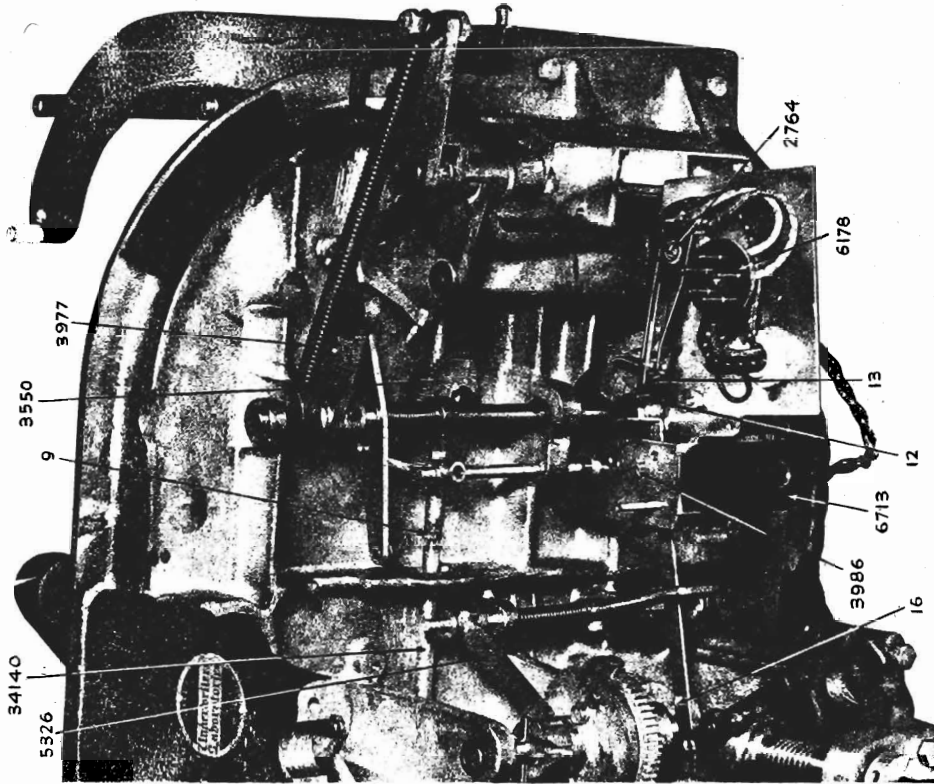
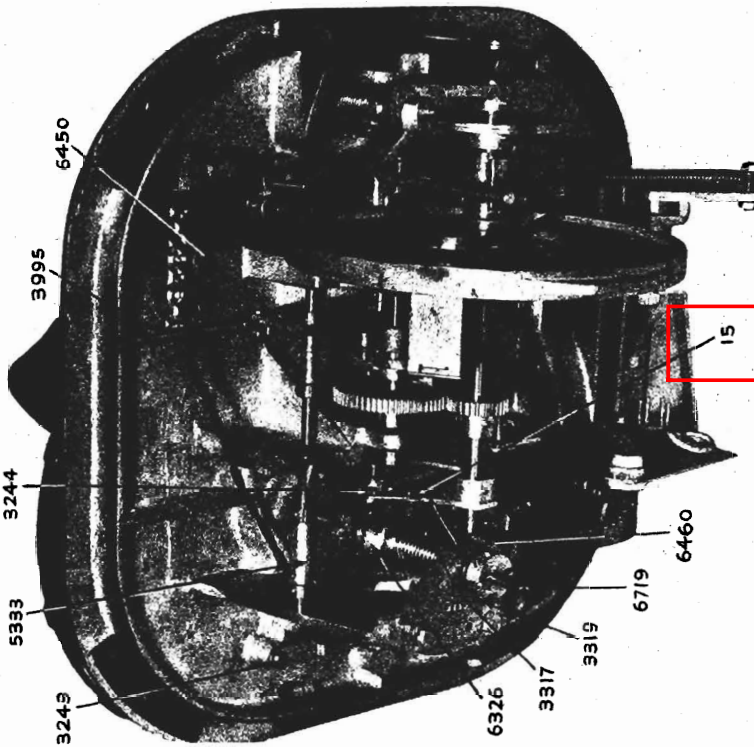

Fig. 3
Fig. 2
The clearance between the driven (6326) (Fig. 10) and driving (3630) (Fig. 10) members of the clutch should be approximately .020" (Twenty thousandths) and is adjusted by loosening screw No. 16 (Fig. 3) to a sliding tension and adjusting the clutch fork (5353) (Fig. 2) and the solenoid to clutch lever and pin assembly until the proper clearance is obtained. After adjustment is made lock the screw No. 16, Fig. 3.
7. Remove the reverse cam arm and roller assembly (6450) (Fig. 2) and make sure that the roller pin and arm are not bent, if either of these items are found bent we suggest that you replace the reverse arm and roller assembly.
8. In reassembling the reverse cam arm and roller assembly (6450) (Fig. 2) in its proper position for alignment with the reverse cam, be sure the roller is about  $\frac{3}{32}$ " inside the ridge on the reverse cam, when the cam is in the reversing position.